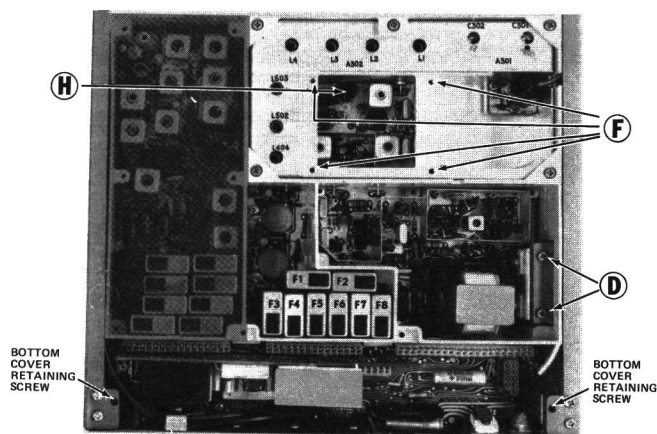

Figure 2 - Disassembly Procedure
2. Remove the top cover, then loosen the two bottom cover retaining screws and remove the bottom cover (see Figure 2).